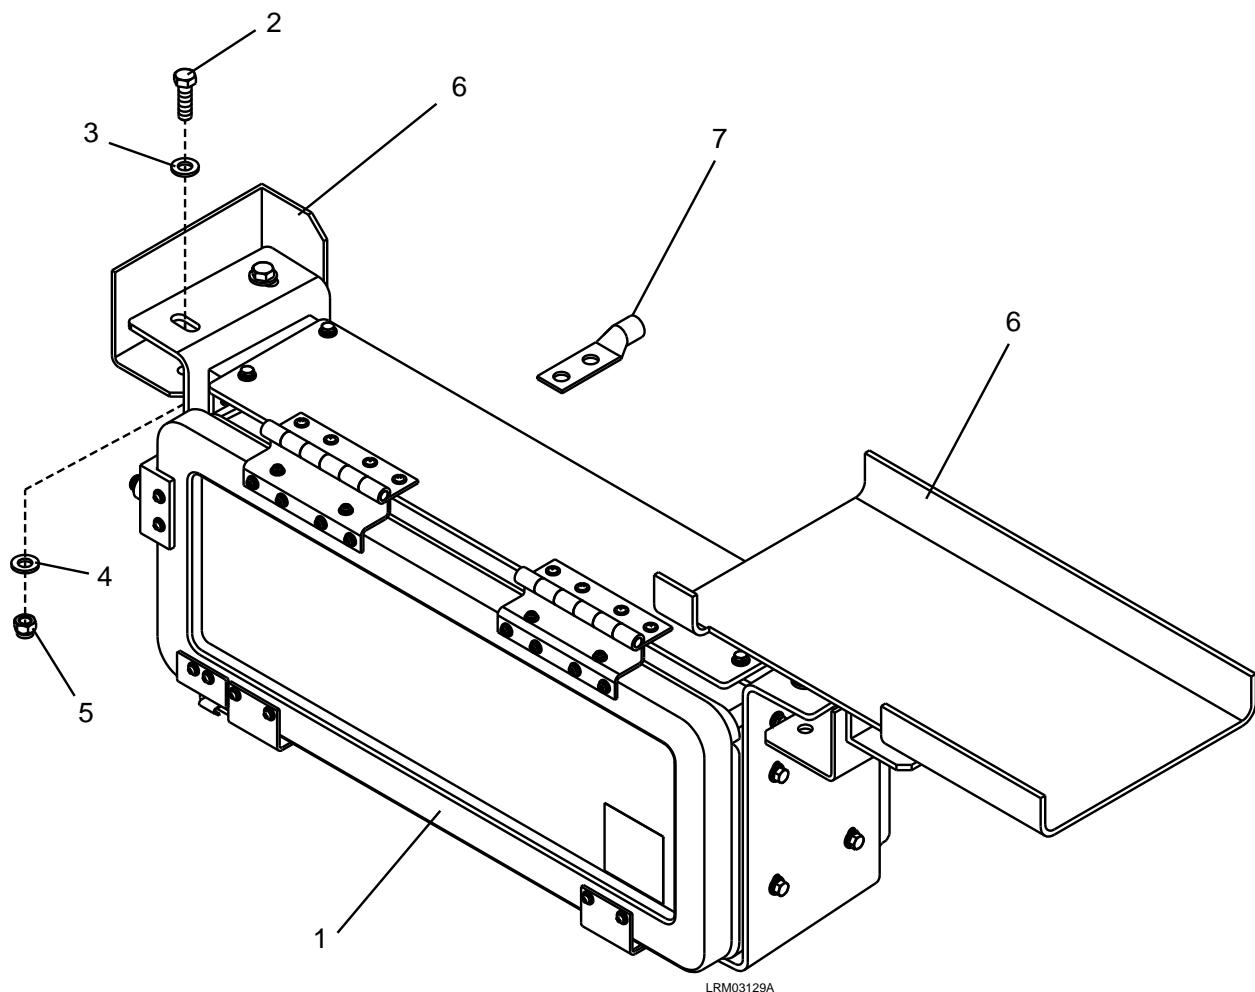

Figure 7-115: Knife Switch
1. Open the cover and disconnect the 3/8-16 electrical connections (7) to the Knife Switch (1).
2. Remove the four M12 ESNA nuts (5) and M12 plain washers (4), M12 x 40 bolts (2), and M12 plain washers (3). See Figure 7-115.
3. Carefully remove the Knife Switch (1) from the mounting brackets (6).